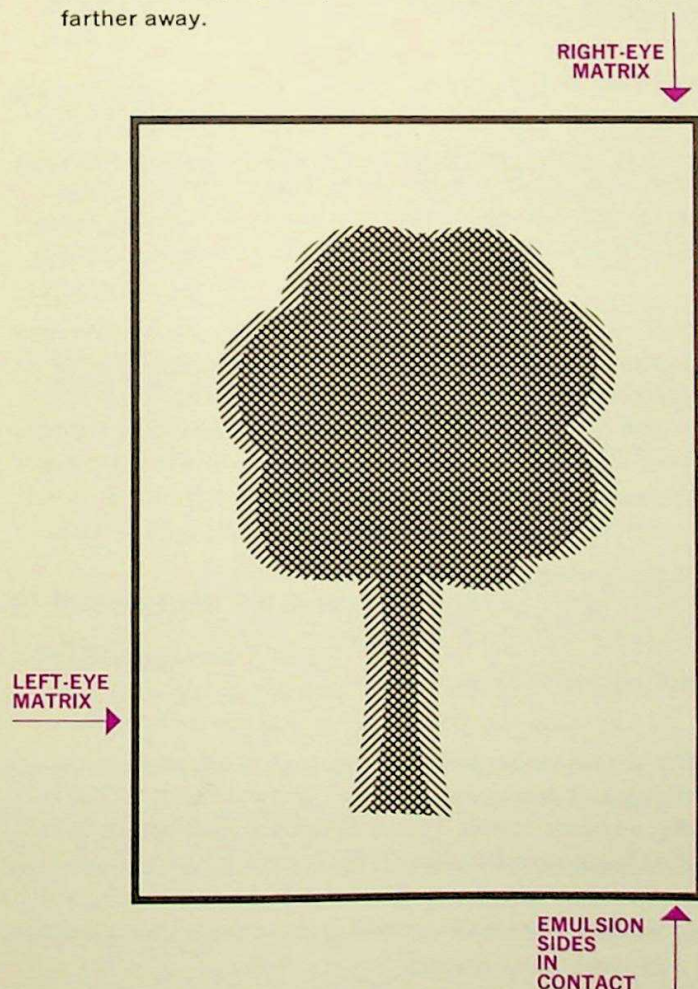

Figure 2
(2) **Select in the picture the point to be registered** and superpose this point in the two matrices. See figure 2.